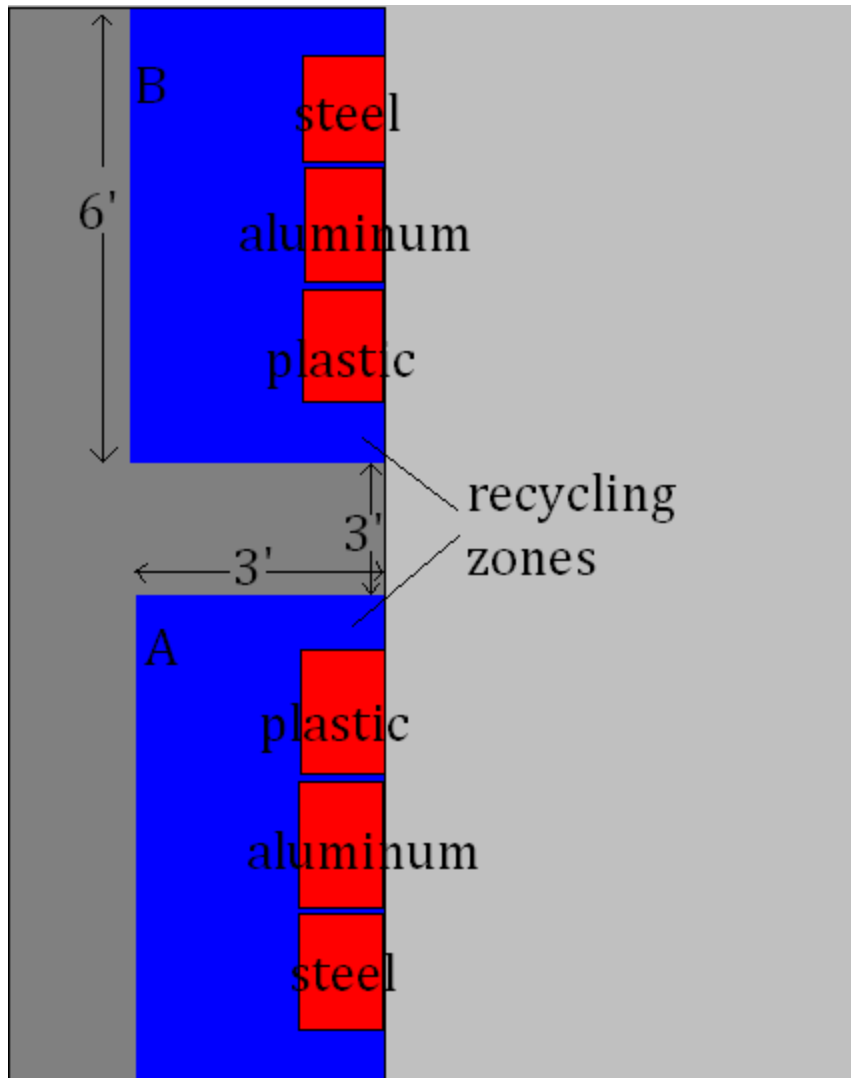

Figure 3: Details of Recycling Zone. Note that recyclables may be sorted in any order; steel cans can go in the middle bin, for instance.
**3.8 Recycling Zones.** In order to score points for collected recyclables, vehicles must deposit recyclables in the recycling zones. Recycling zones will be located on the far end of the contest arena from the starting zones. Each team’s recycling zone will be placed **on the side** closer to their opponent’s starting zone, such that teams will have to cross paths with their opponents to reach their recycling zone. Within the recycling zone will be bins for sorted recyclables, as detailed in Section 5, Figure 3. Any recyclables within that team’s recycling zone but not in bins will be counted as “commingled recycling” and will count for half as many points as those in the bins.